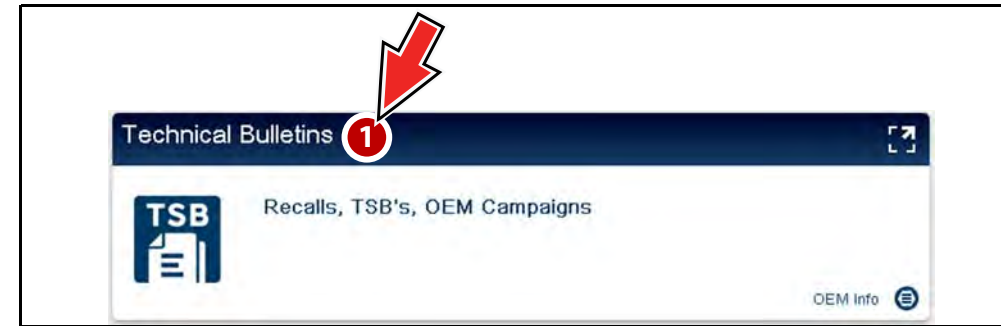

Figure 7-7 Technical Bulletins card
The Technical Bulletins card (Figure 7-7) provides a quick link to OEM Recall, TSB and Campaign information that may be available for the selected code.
- A red icon (Figure 7-7) indicates the total number of Recalls, TSBs, and OEM Campaigns that have been found.
Selecting the Technical Bulletins card (Figure 7-7) provides a detailed list view of the available OEM Recalls, TSBs, and Campaigns (Figure 7-8).